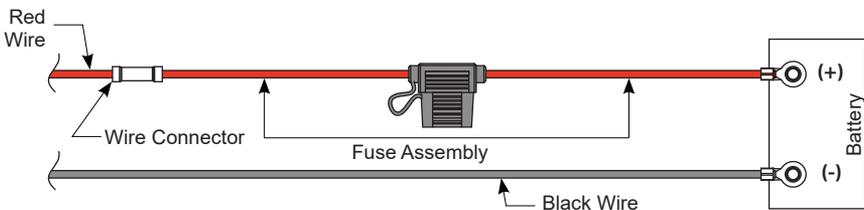

Figure 8
3. Insert one end of the fuse assembly wire into a wire connector (included) and crimp. Insert the red power cord wire into the other end of the wire connector and crimp. Make sure the fuse assembly is positioned outside of hazardous areas and as close to the battery as possible (see Figure 8).
5. Connect the red wire/fuse assembly to the positive side of the battery (see Figure 8) and connect the black power cord wire to the negative side of the battery.